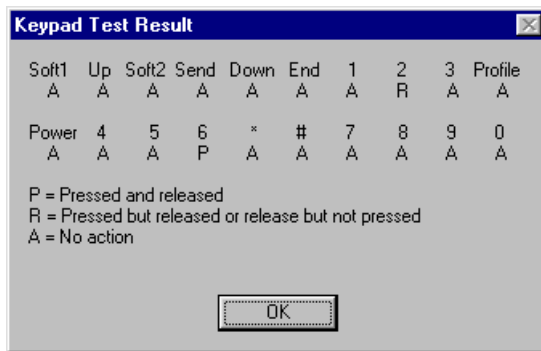

Figure 3. CMT keypad test results
6. Change the keypad to be tested to PDA. Repeat test steps 4 and 5 for the PDA keyboard. The result window is shown in Figure 3.